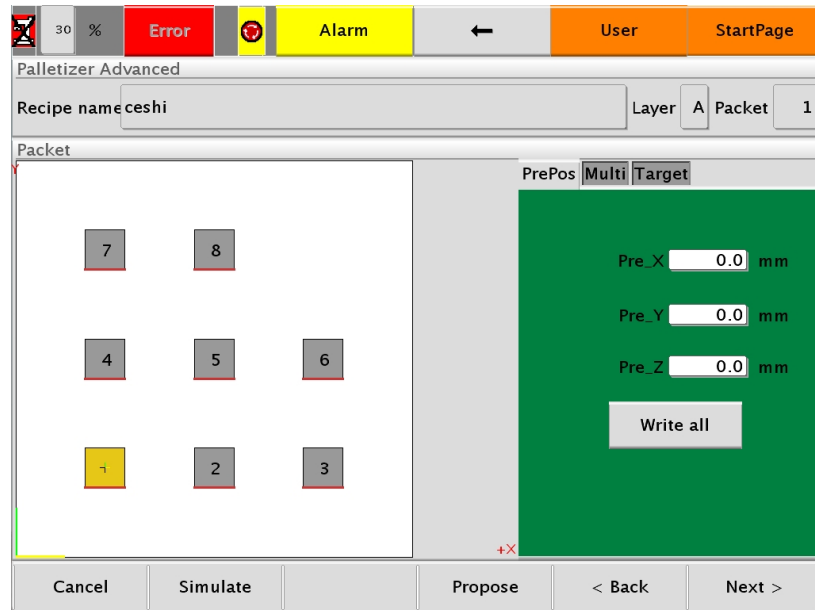

Figure 35
(6) Click **"Edit"** to pop up as shown in **Figure 35** below.